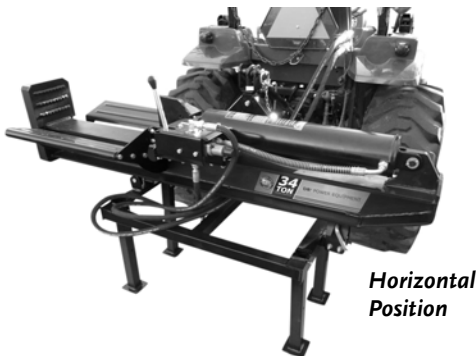

Figure 22
1. Pivot the Beam to the horizontal position (**Figure 22**).